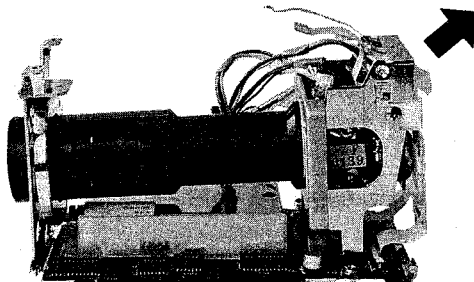

Fig. 1-5-4
7. Slide the optical block assembly to the rear as shown in Fig. 1-5-4.